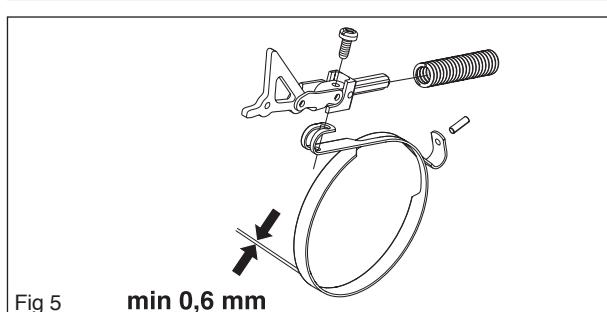
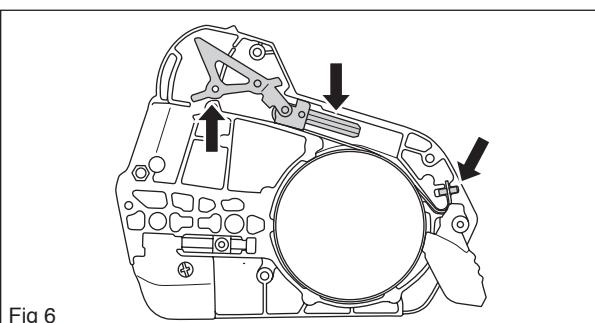

Fig 5
Fig 6
- Measure the thickness of the chain brake band. It must not be less than 0.6 mm in any place. See figure 5.
Screw the knee joint and the brake band together (see figure 5) using a tightening torque of 1-1.5 Nm. Place the knee joint with the fitted chain brake band in the opening in the clutch cover. The space for the spring in the cover must be lubricated with grease. See figure 6.
Detach the right-hand brake trigger from its mount on the rear handle. See fig. 5.